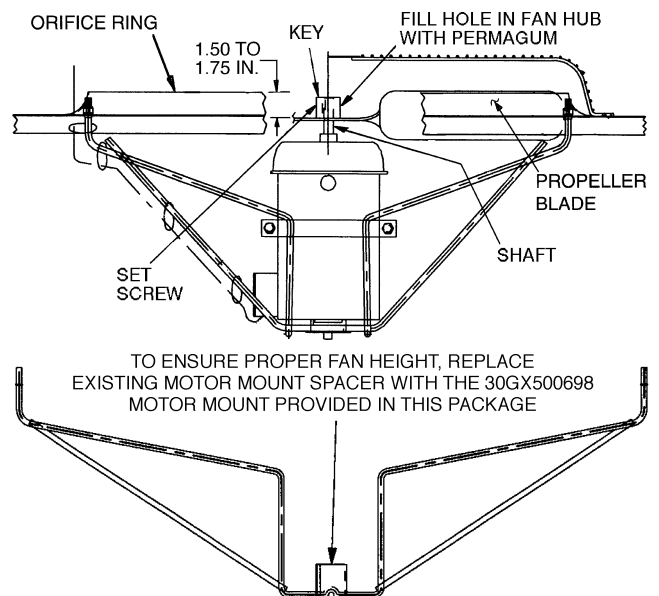

Fig. 12 — Location of Propeller on Motor Shaft from Outside of Orifice Ring
16. Reinstall the fan propeller and fan guard. Ensure that center of propeller is correct distance from top of fan orifice. See Fig. 12.